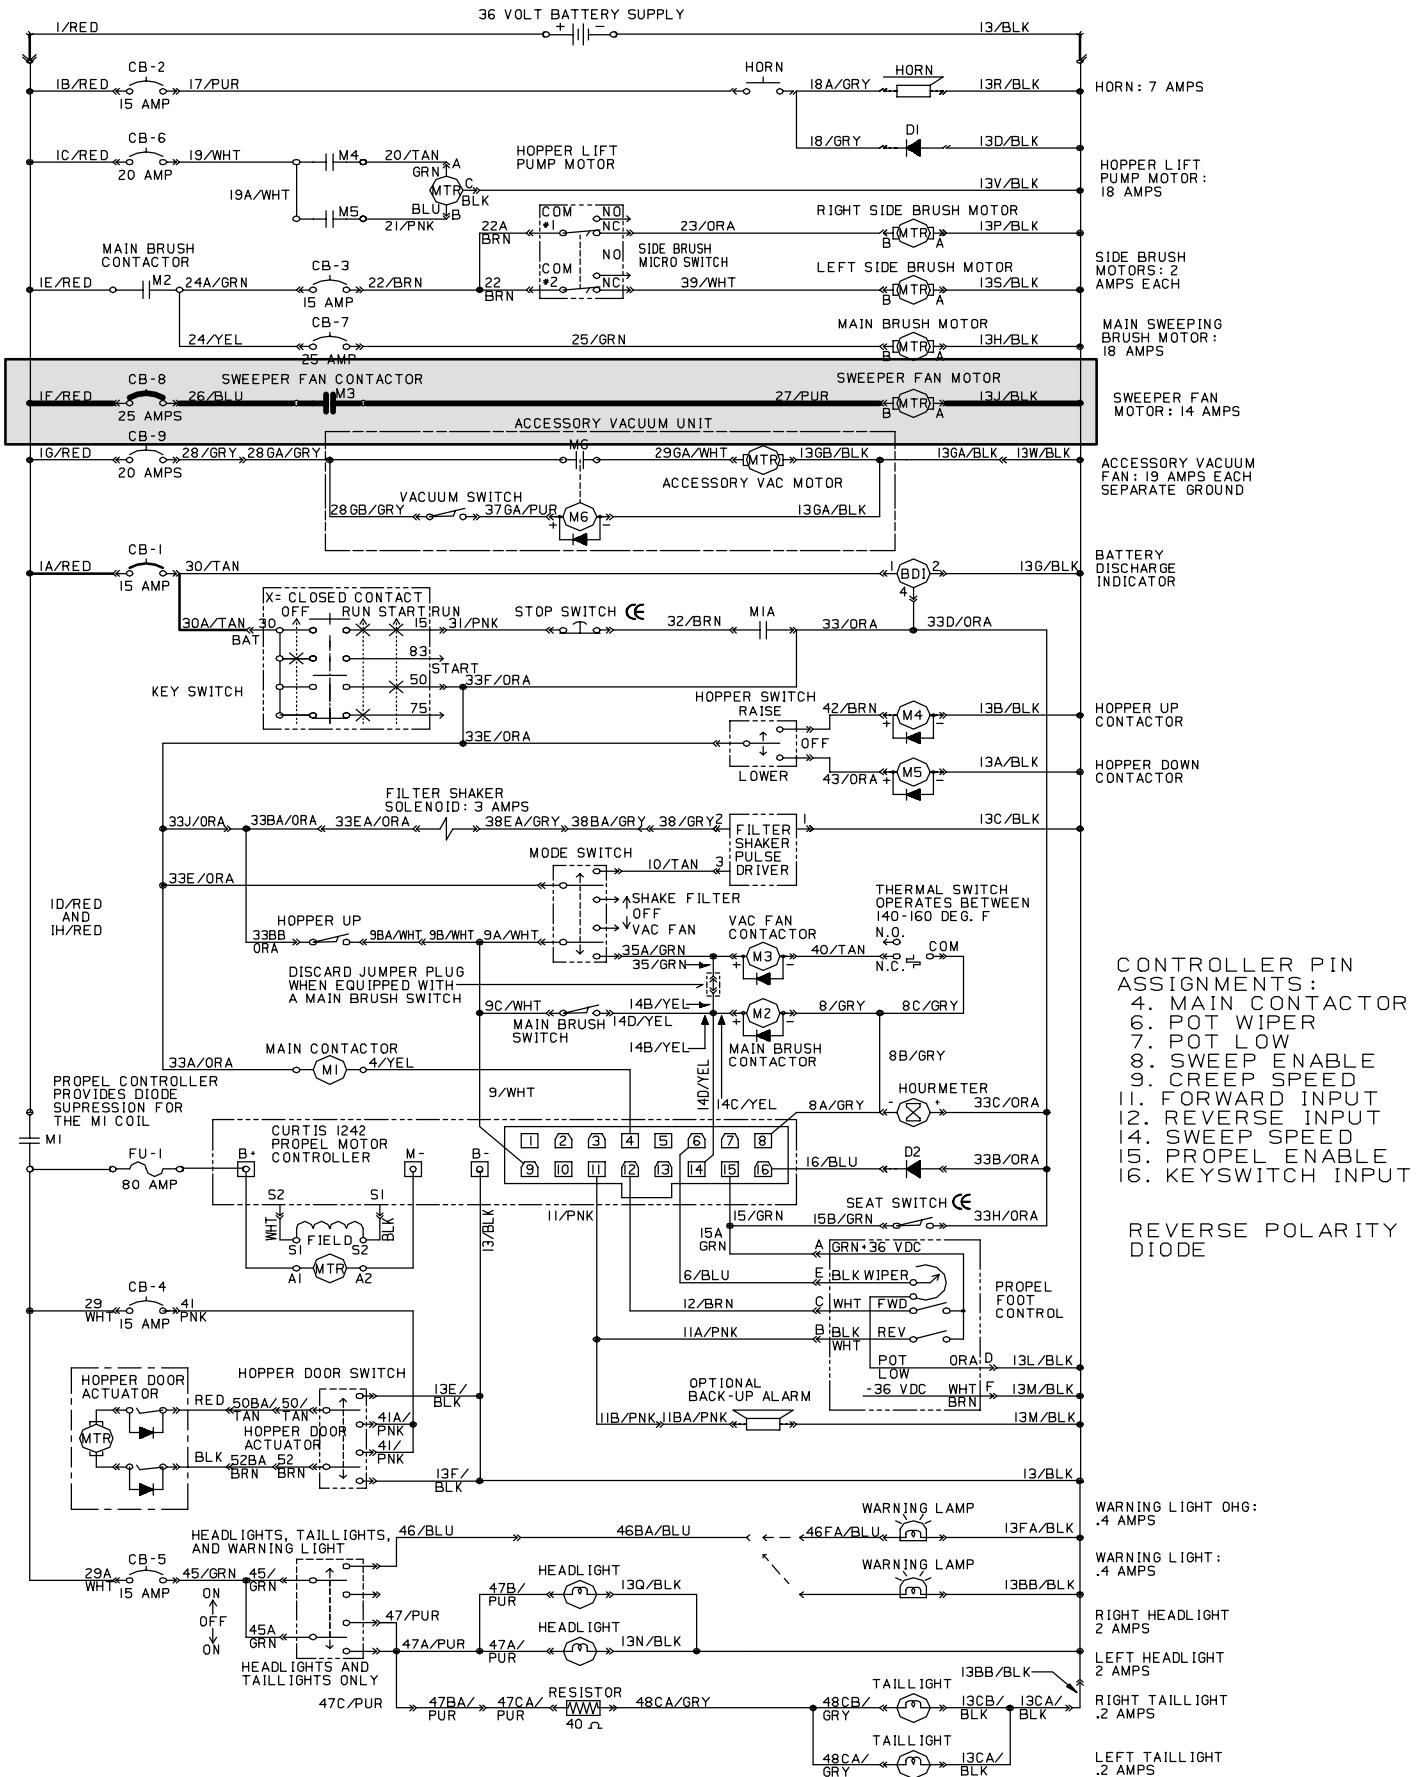

Fig. 11
2. Power circuit. (see fig. 11)